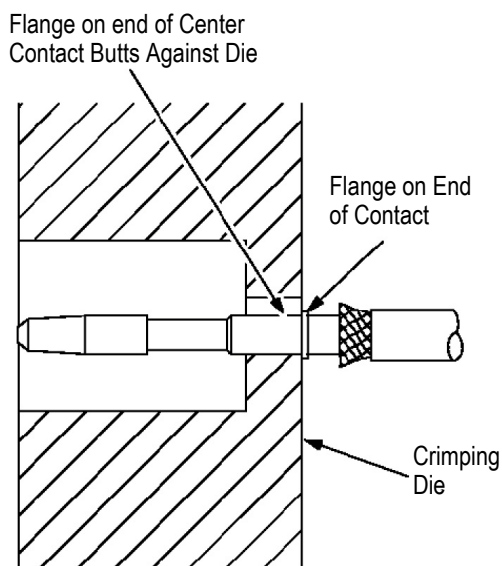

Figure 3
2. Slide the center contact onto the center conductor of the cable; then insert the contact assembly into the center contact crimp section of the die. See figure 3.
NOTE Make sure that the flange on the end of the center contact butts against the crimping die. See Figure 3.